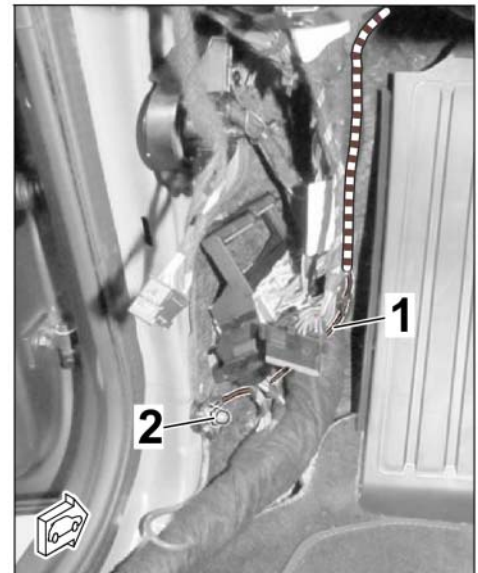

Figure 35
2.7 Route line BN; 1.0² with cable shoe (ground) to the ground pin MB 21 (left-hand drive) and install it (\Rightarrow *Figure 35*).